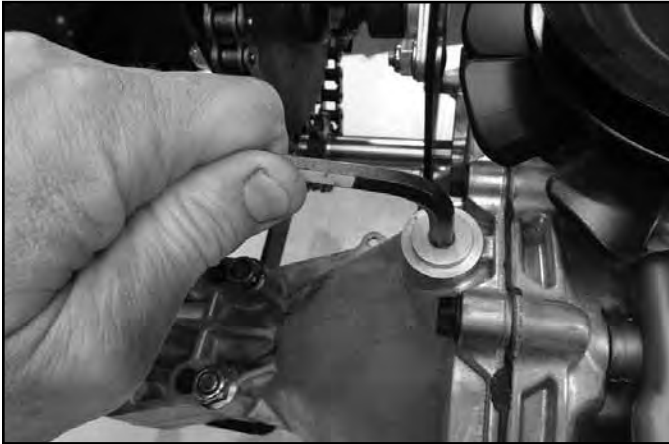

Fig. 104
2. Remove and retain the oil-fill port fitting and position the transmission so the oil will drain completely out of the housing (Fig. 104).